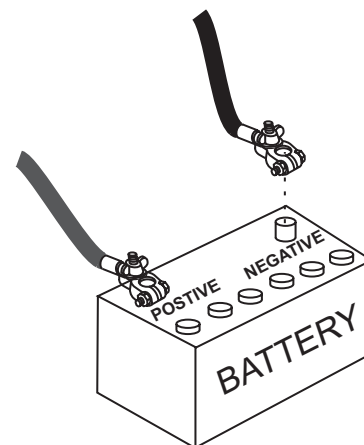

Figure 37. Battery Connections
3. Connect the negative battery cable (BLACK) to the negative post on the battery (Figure 37).